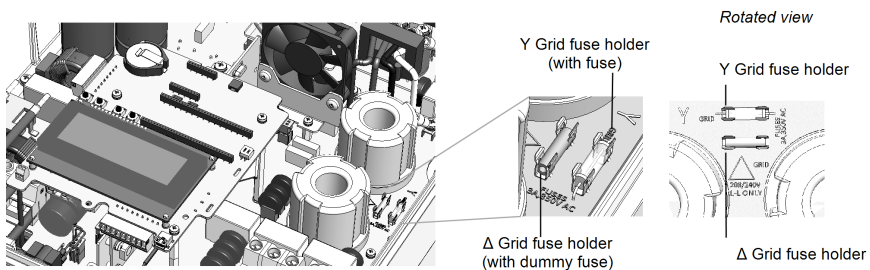

Figure 19: Fuse locations and markings
To set the inverter for 3-wire grid connection, you must move the fuse from the 4-wire fuse holder, marked as Y GRID, to the 3-wire fuse holder, marked as Δ GRID (see *Figure 19*).
2. Identify the fuse locations and the markings as described in *Figure 19*.